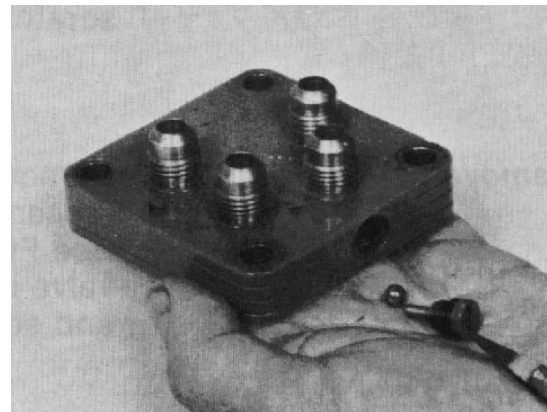

Figure 30
5. Remove the loosened plug and o-ring assembly from the port cover. Be ready to catch the steel check ball as it falls from its cavity (Fig. 30). Discard the o-ring.